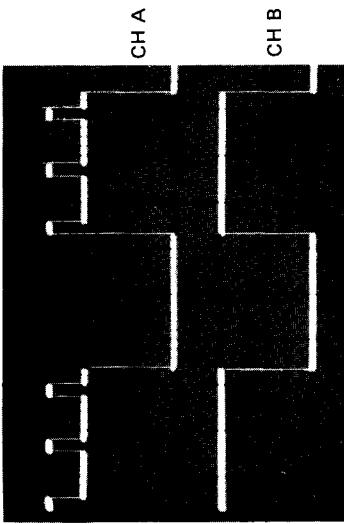

Figure 17. Common-Mode Signals
1. Apply signal to be measured (with unwanted component) to channel A INPUT ④8.
2. Apply signal similar to unwanted component to channel B INPUT ⑤8. (See figure 17.)
3. Set coupling as required and select ALT ④3 DISPLAY mode.
4. Adjust VOLTS/DIV ⑤5 and vernier ⑥6 so that display on channel B is approximately equal in amplitude to unwanted component on channel A.